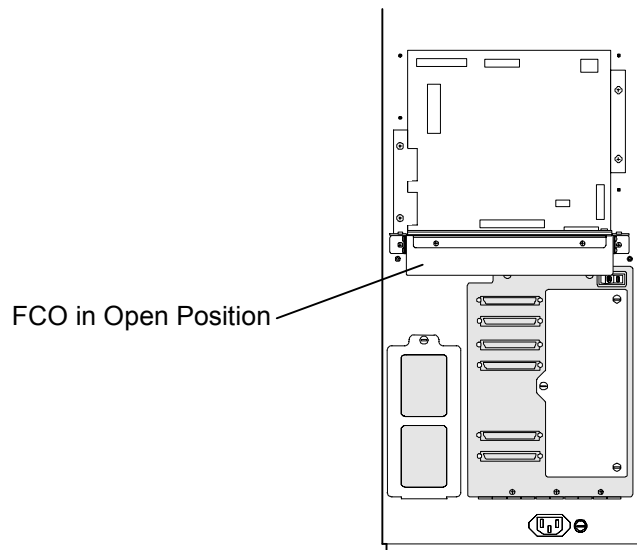

Figure 4-6 Fibre Channel Option in the Open Position
7. Loosen the two top captive screws on the FCO that were tightened in step number four. Carefully guide the FCO backwards as it pivots on the hinges and comes to its open position. See Figure 4-6.